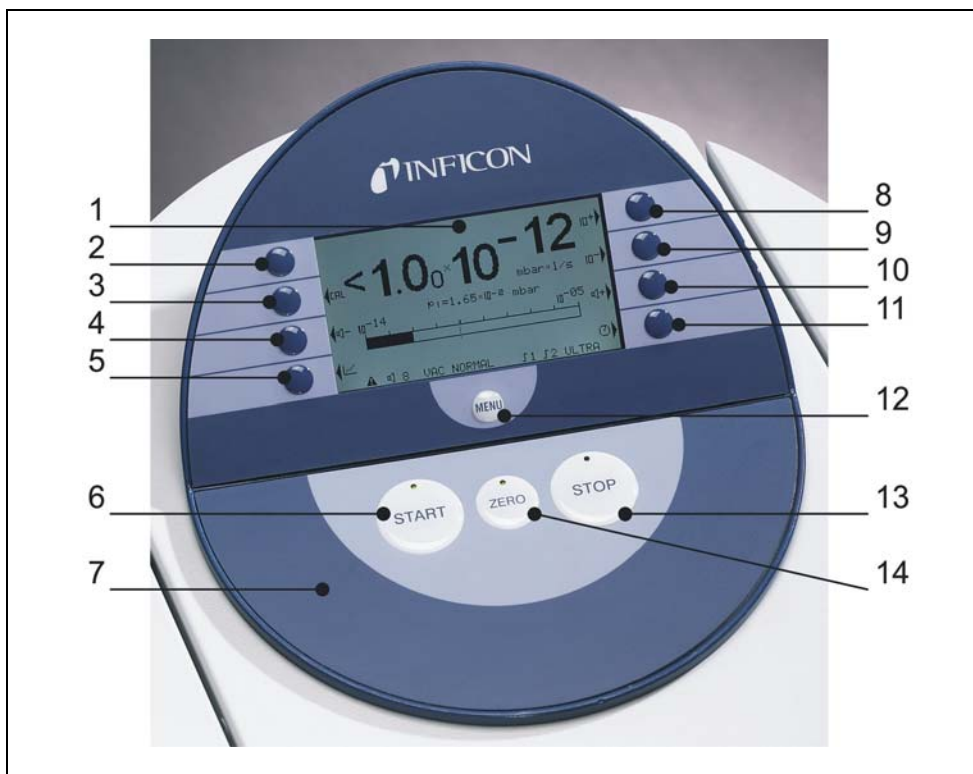

Fig. 3-2: Control Panel
- 5** Press the **START Button** Fig. 3-2/6. The inlet will be evacuated and the measured leak rate will be displayed a moment later.
- 6** To correct for any background signal (residual Helium in the part under test) you may press the **ZERO Button** Fig. 3-2/14. To undo **ZERO** please press the **ZERO Button** for 2 ... 3 seconds.
- 7** Press the **STOP Button** Fig. 3-2/13, the Standards will go to Stand-by. If you press **STOP** a few seconds the inlet of the Standards will be vented.
- Press **Calibration** (Soft Key no. 5 Fig. 3-2/8) to get into the calibration menu.
- Select *internal* (Soft Key no. 4 Fig. 3-2/5) to choose the internal calibration.
- Select *automatic* (Soft Key no. 8 Fig. 3-2/11). The automatic procedure of the internal calibration is started and takes about 30 seconds.
- 10** Press the **STOP Button** Fig. 3-2/13 until the message *STAND-BY/VENTED* appears on the display. The inlet is vented now.
- 12** Press the **START Button** Fig. 3-2/6 again. The inlet will be evacuated and the leak rate of the test leak will be measured and displayed.
- 13** Press the **STOP Button** Fig. 3-2/13 to interrupt the measurement. The Stand-by mode will be displayed.
- 14** Press the **STOP Button** Fig. 3-2/13 again until the message *STAND-BY vented* appears on the display. The inlet is vented now.